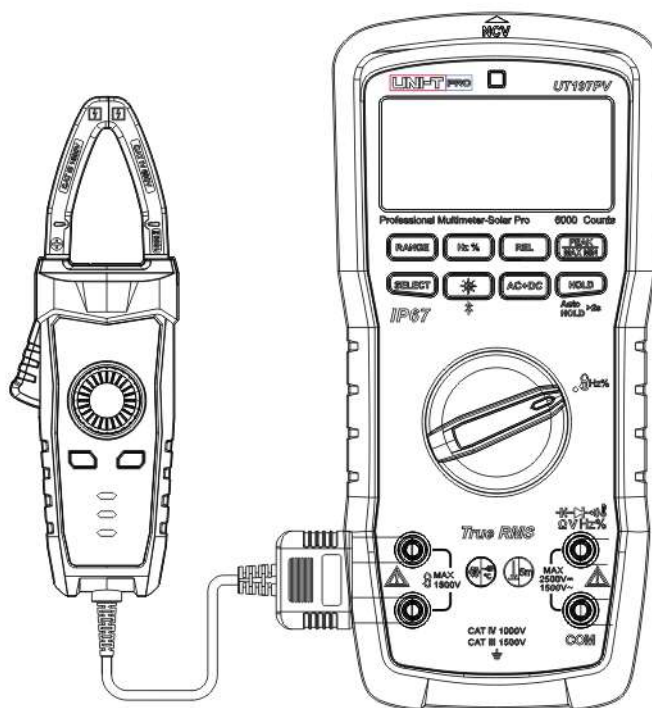

Figure 13
10. Current sensor (ACA/DCA) measurement (Figure 13)